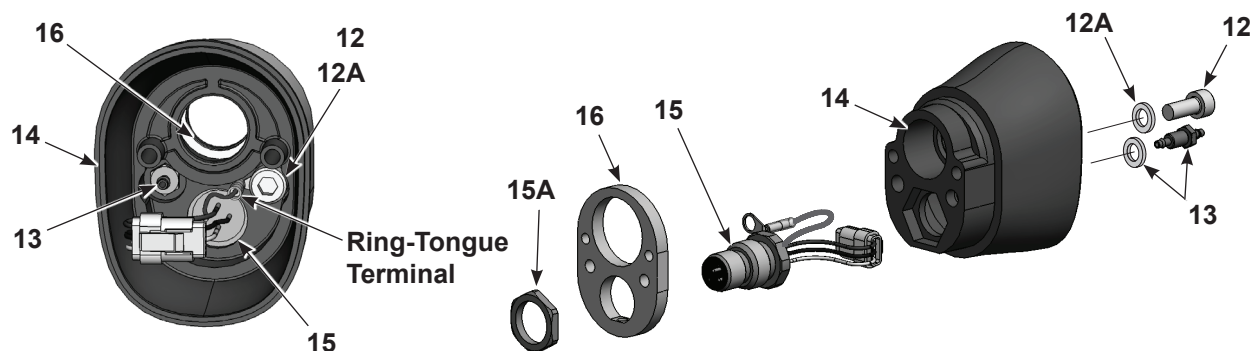

Figure 7-6 Tube-Mount Spray Gun Disassembly 5 of 5
18. See Figure 7-6. To disassemble the rear body assembly, remove the screw (12) and barbed fitting (13) from inside the rear spray gun body (14). A 3-mm hex key and 1/4-in. deep-well socket are required.
19. Remove the nut (15A) from the receptacle, pull the grounding plate (16) off the rear spray gun body, and feed the receptacle harness through the body.